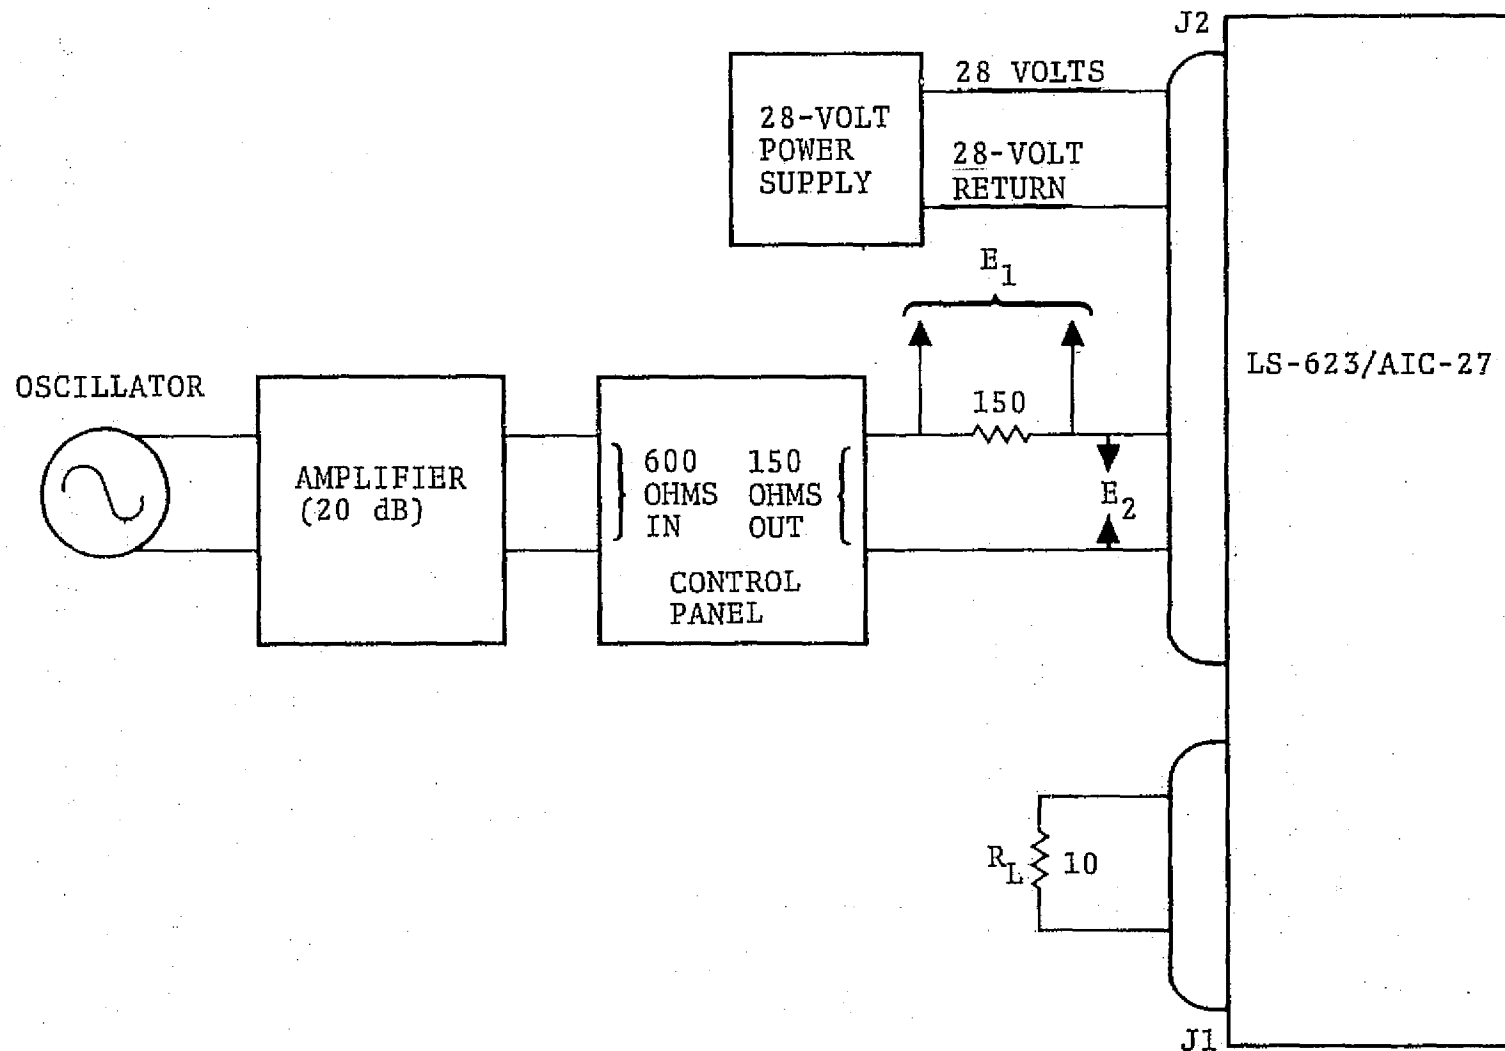

Figure 4-3. — Test setup: receive section.
1. Connect the equipment as shown in figure 4-3.
1. Reconnect the equipment as shown in figure 4-3.